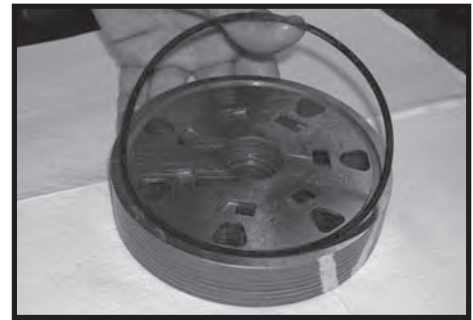
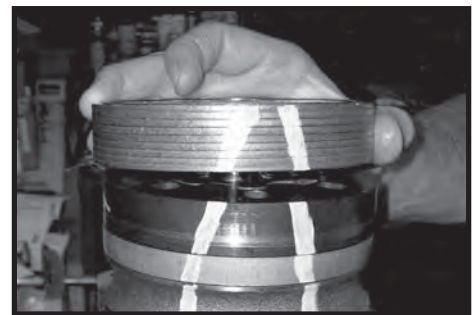

Figure 46
Figure 47
Apply clean grease to a **new** seal ring (4) and assemble it in the seal ring groove in the rotor set contact side of manifold (7). SEE FIGURE 46.
**NOTE:** The manifold (7) is made up of several plates bonded together permanently to form an integral component. The manifold surface that must contact the rotor set has it's series of irregular shaped cavities on the largest circumference or circle around the inside diameter. The polished impression left on the manifold by the rotor set is another indication of which surface must contact the rotor set.
14. Assemble the manifold (7) over the drive link (10) and onto the rotor set. Be sure the correct manifold surface is against the rotor set. SEE FIGURE 47.